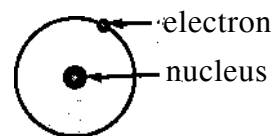

Fig. 3.3 : Schematic representation of Rutherford's model
- the rest of the atom must be empty space which contains the much smaller and negatively charged electrons (Fig. 3.3).